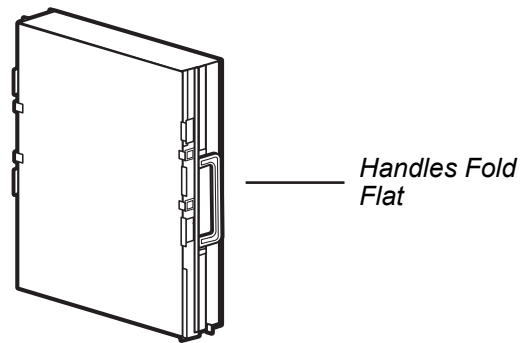

Figure 34 Collection Cell, Handle Folded
- Reinstall the COLLECTION CELLS into the air cleaner. Ensure the handles on both of the COLLECTION CELLS are folded flat as shown in Figure 34.